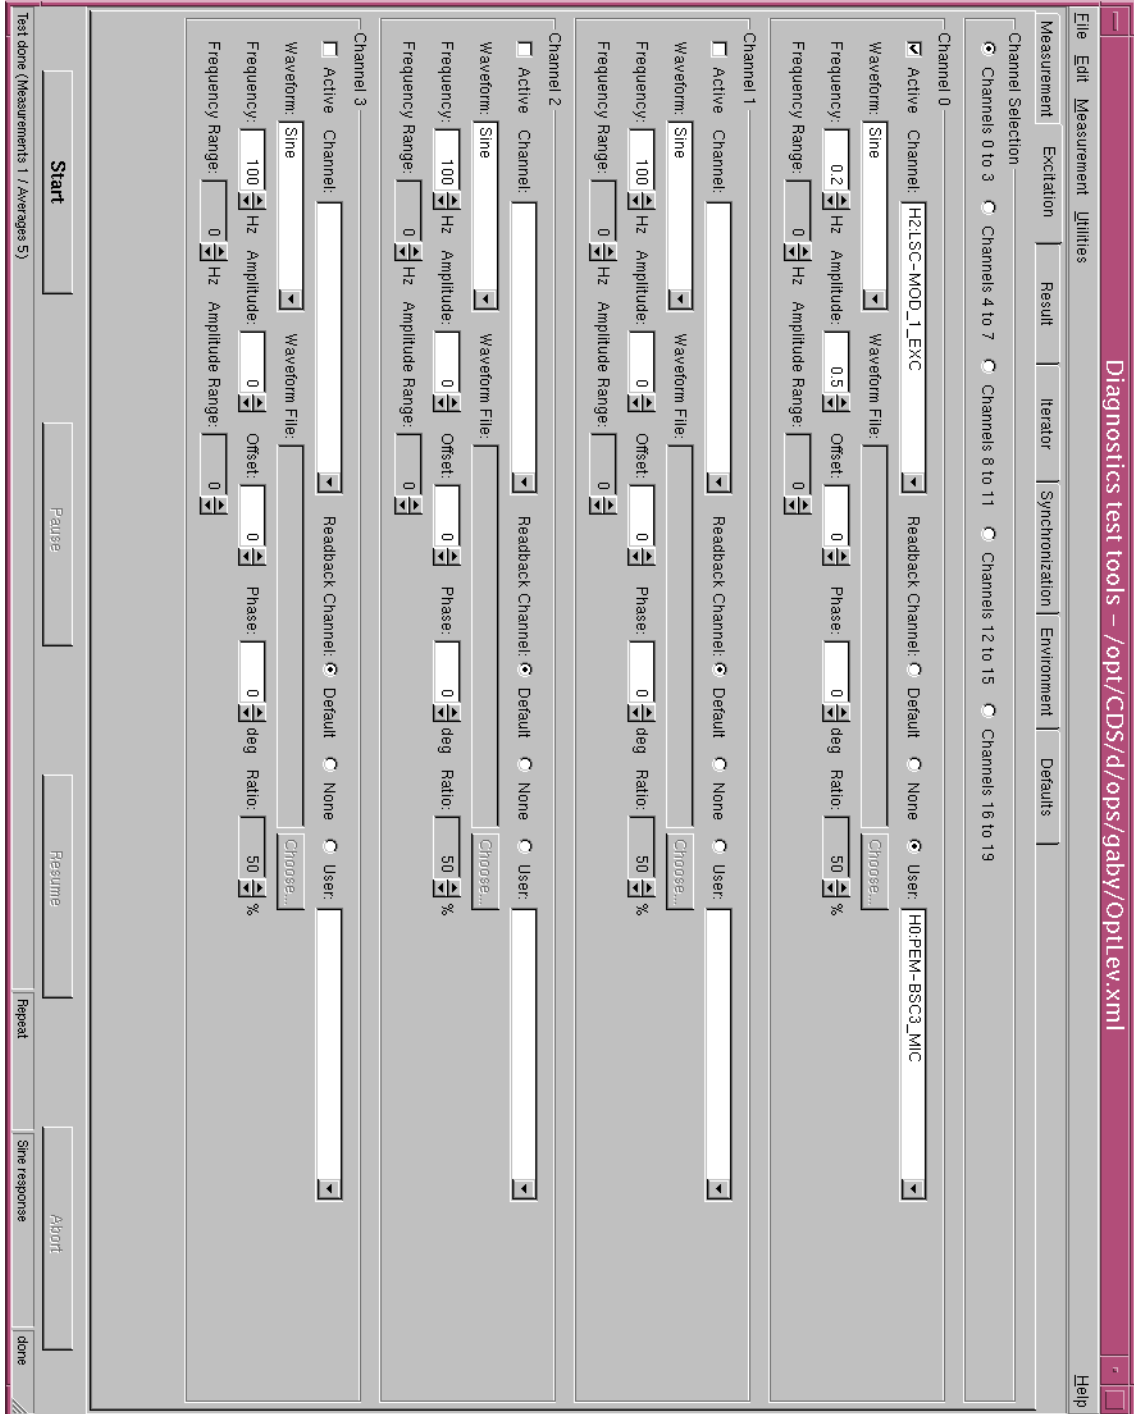

Figure 11: Typical Excitation pane settings in GDS for a measurement in the output matrix tuning procedure.
5. In the excitation pane (see Figure 11), choose the appropriate channel for excitation (e.g., `H2:LSC-MOD_1_EXC`), and for readback (e.g., `H2:DAQ-GPS_RAMP3`), a sine wave with the desired measurement frequency and an amplitude of 1 V.
5. In the excitation pane (see Figure 11, choose the appropriate channel for excitation (e.g.,